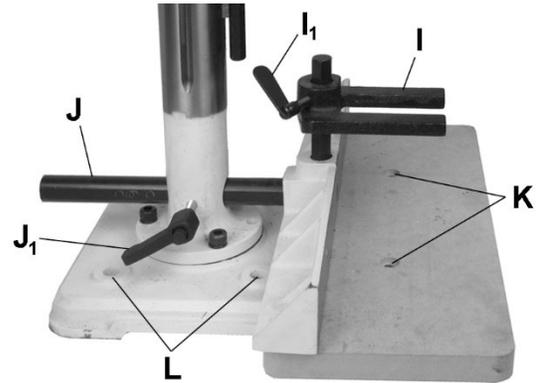

Figure 8-2
5. Attach table to base using two flat head screws (K, Figure 8-2).
6. Insert bar of fence assembly (J, Figure 8-2) through hole in column. Use the fence-locking handle (J1) to adjust fence assembly.
This machine must be fastened to a supporting surface to prevent it from tipping during operation. The base has four 3/8" diameter holes (L, Figure 8-2) for this purpose. Mounting fasteners are not included.